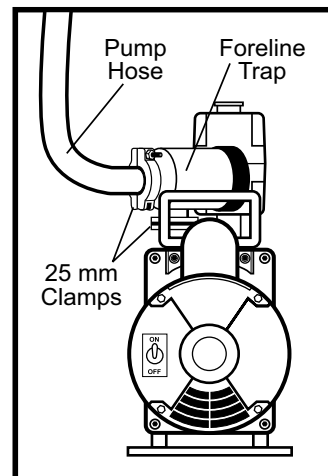

Figure 3-2 Pump Assembly
1. Remove the vacuum pump from its shipping box. If not already installed, clamp the Foreline Trap to the pump with a 25 mm clamp. Clamp the pump hose to the Foreline Trap with a 25 mm clamp. (Figure 3-2).